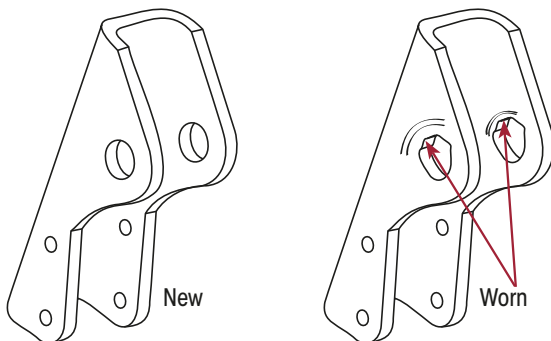

Figure 160: Inspecting Shock Bushes & Mounts
Damage to mounting holes by a loose shock absorber bolt must be replaced or repaired. Otherwise, it may cause the new shock absorber to also come loose. Refer Figure 160.
3. Inspect shock absorber mountings for damage or wear that may allow shock to come loose in service. Refer Figure 160.